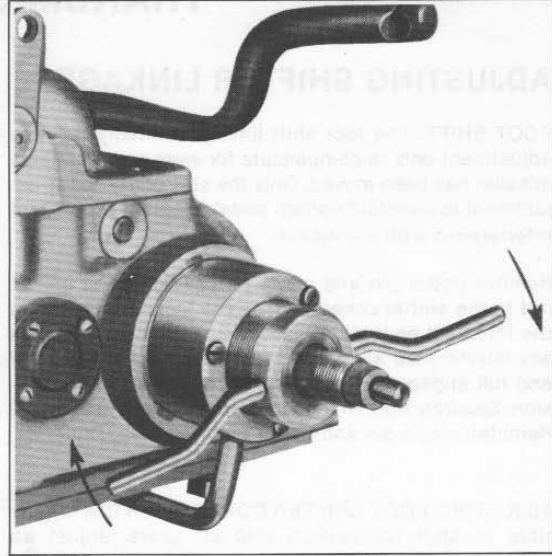

Figure 4-11. Pulling Oil Seal
Turn actuating screw (A) into body and continue turning as shown in figure 4-11 until oil seal is free. Discard oil seal and oil seal cork washer found behind seal.